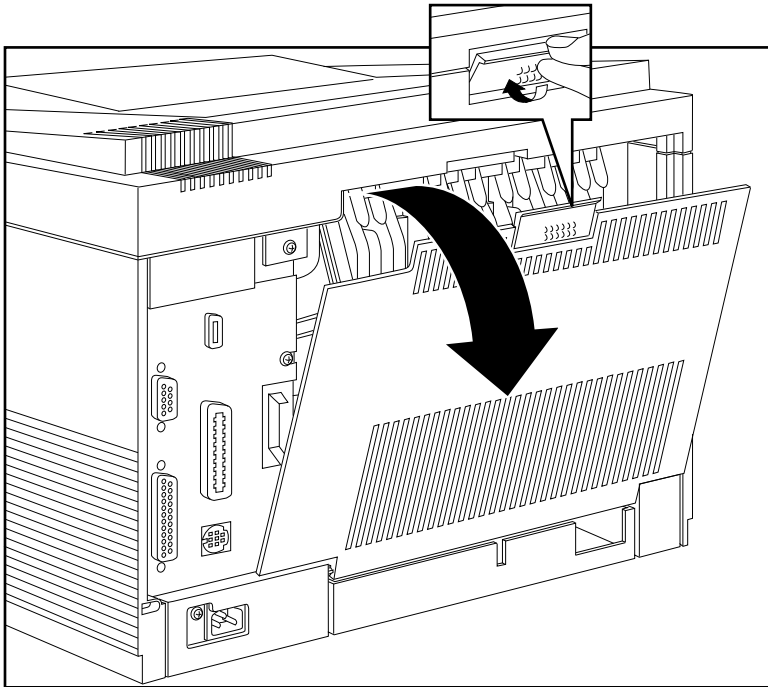

Fig. 10.11 Open the Rear Cover
1. Open the rear cover by pressing in and pulling the latch back and down (fig. 10.11).